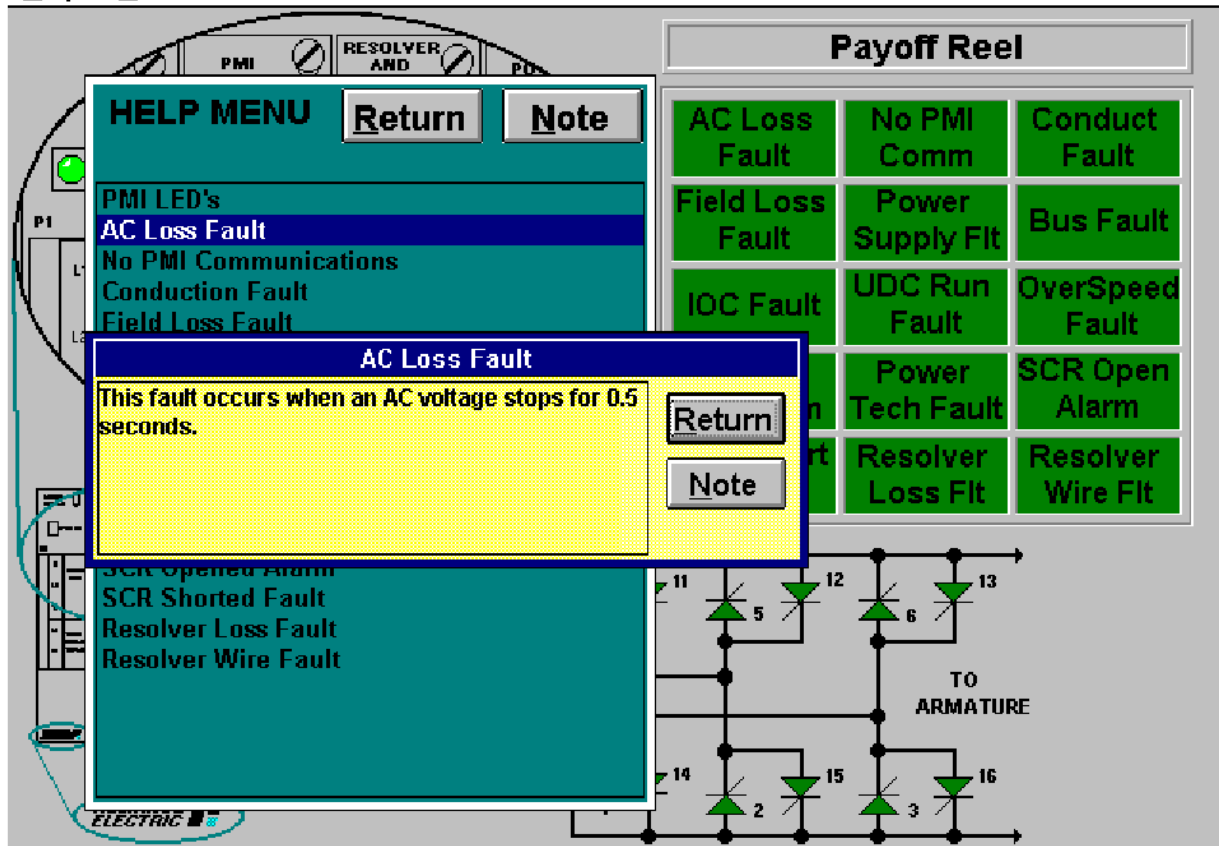

Figure 6-4 The Help Text
2. Double-click a fault or alarm item to display a Help Dialog box (shown in Figure 6-4) containing an explanation of that item.
The PMI LED item displays a list of defined diagnostic LEDs. Double-click a diagnostic LED to display a Help Dialog box (shown in Figure 6-4) containing an explanation of that item.